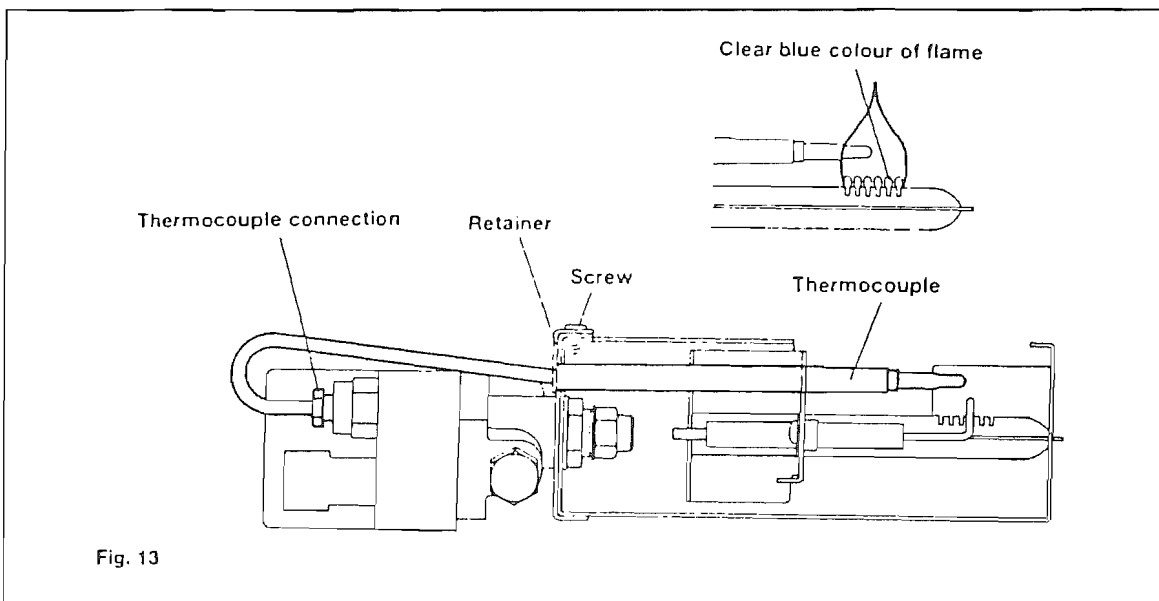

Fig. 13
The Flame Failure Safety Device (Fig. 13)
2. Disconnect the thermocouple connection and pull the thermocouple straight out. (See Fig. 13)